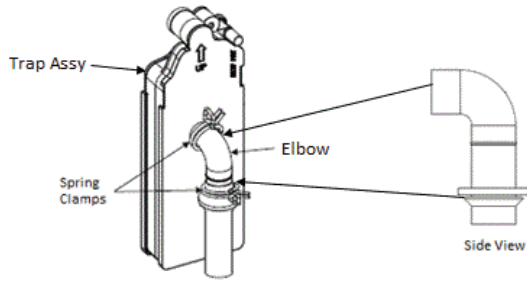

Fig. 24 – Condensate Drain Connection
3. Connect the full elbow to the outlet of the condensate trap with one spring clamp. Avoid misalignment of the drain pipe which may cause kinks in the elbow or grommet, see Fig. 24.
6. Open the spring clamp and insert the long end of the adapter or the 1/2-in. CPVC pipe into the outlet stub on the drain tube, see Fig. 24.